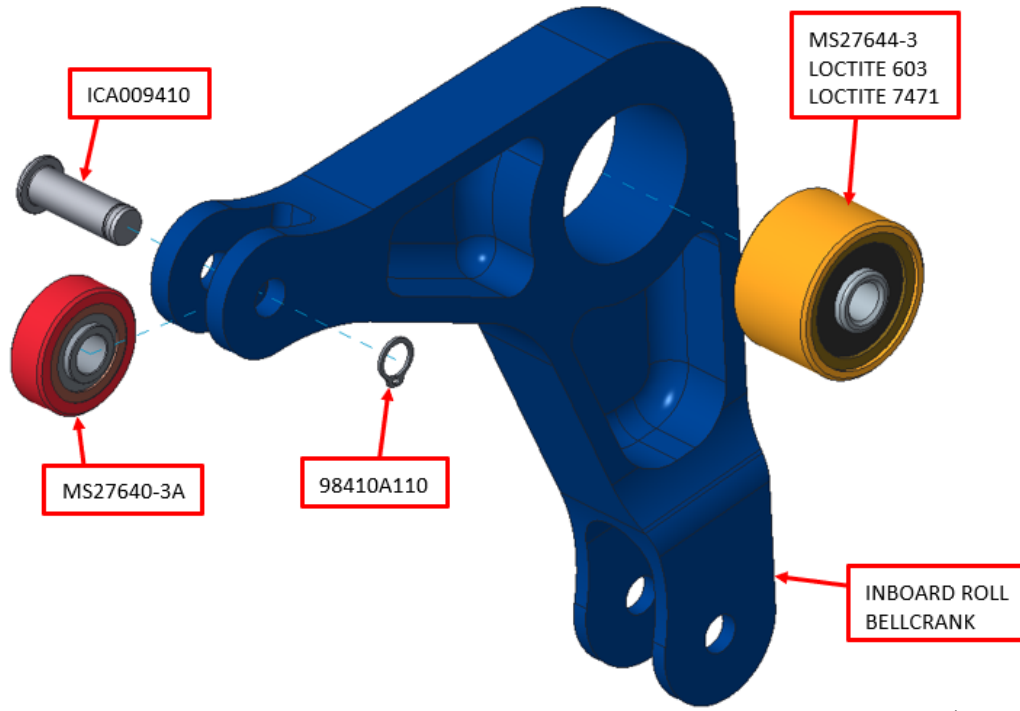

Figure 3: Inboard Roll Bellcrank. LH Side Shown.
1. Assemble the inboard roll bellcrank components as shown in Figure 3 (if not already assembled from ICON). It is permissible to re-use hardware from the previously removed bellcrank except the 98410A110 clip. The MS27644-3 bearing will require a press fit. Once press fit into the bellcrank, ensure the bearing smoothly rotates. If it does not smoothly rotate contact ICON for further assistance.